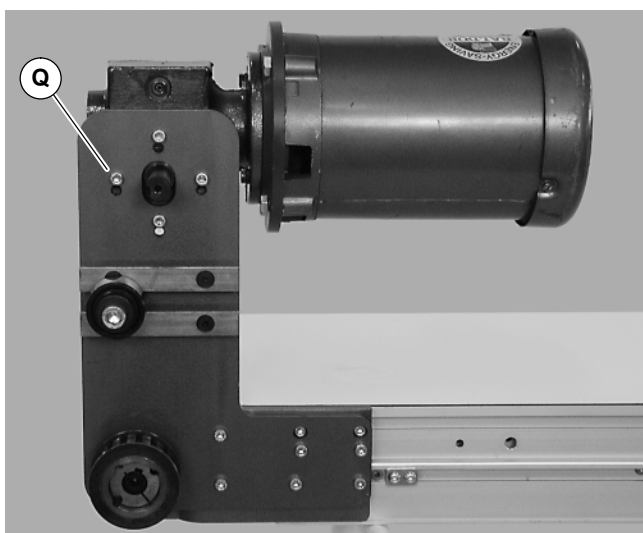

Figure 14
4. Remove four (4) gear reducer mounting screws (Q of Figure 14). Remove gearmotor.
11. Install gearmotor to mounting bracket and tighten screws (Q of Figure 14) to 110 in-lb (12 Nm).